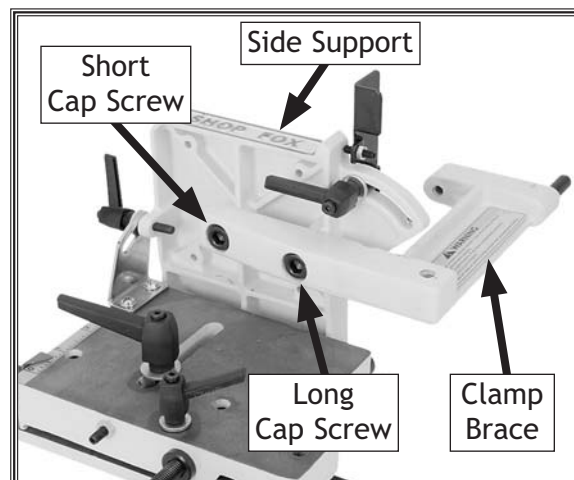

Figure 4. Clamp brace installed.
1. Attach the clamp brace to the back of the side support with the M10-1.5 cap screws and 10mm lock washers, as shown in Figure 4.
Note: These cap screws are different lengths and must go into the correct holes, as shown in Figure 4.